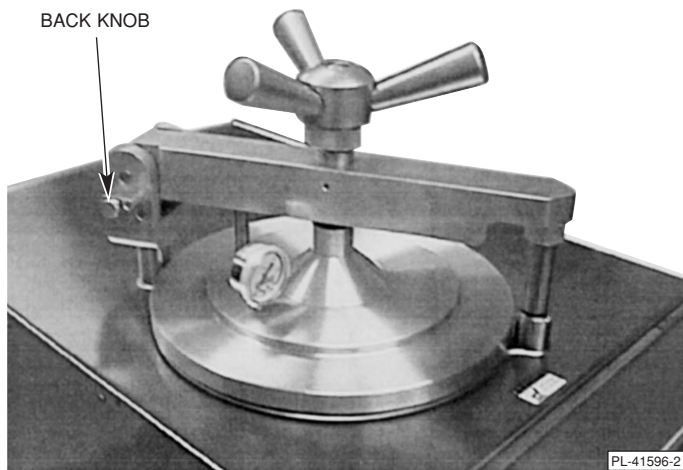
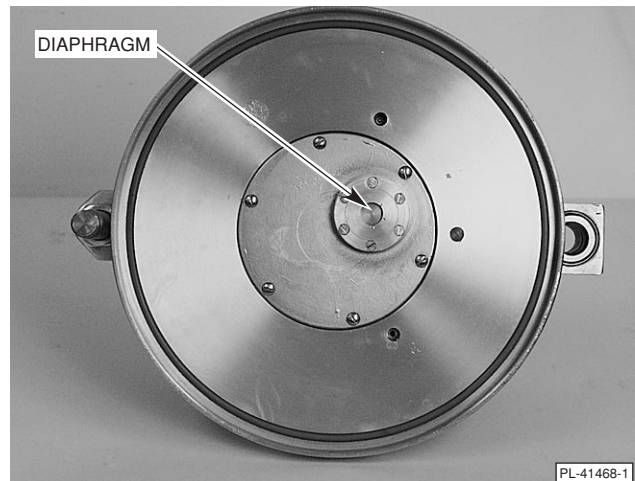

Fig. 12
Fig. 13
10. Raise lid by pulling back knob (Fig. 12) out and lifting lid up. Hold back knob out until you reach desired height. Release back knob to hold the lid in that position. Wipe the under part of lid clean, including diaphragm (Fig. 13).